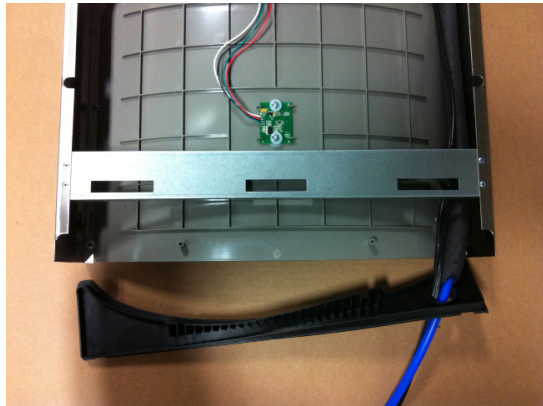

Fig. 6
- 5) **Feed power cord & 3/8" water line** through hole in tower/basin gasket (See Fig 6).